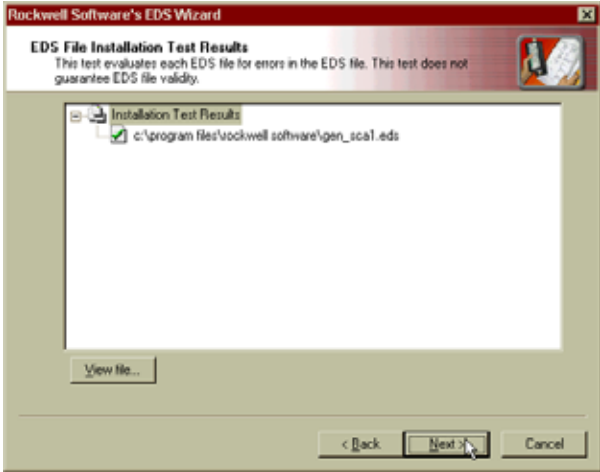

FIG. 115: EDS FILE INSTALLATION TEST RESULTS DIALOG BOX
- Step 11. Click on Next. The EDS File Installation Test Results dialog box appears. (See Fig. 115)